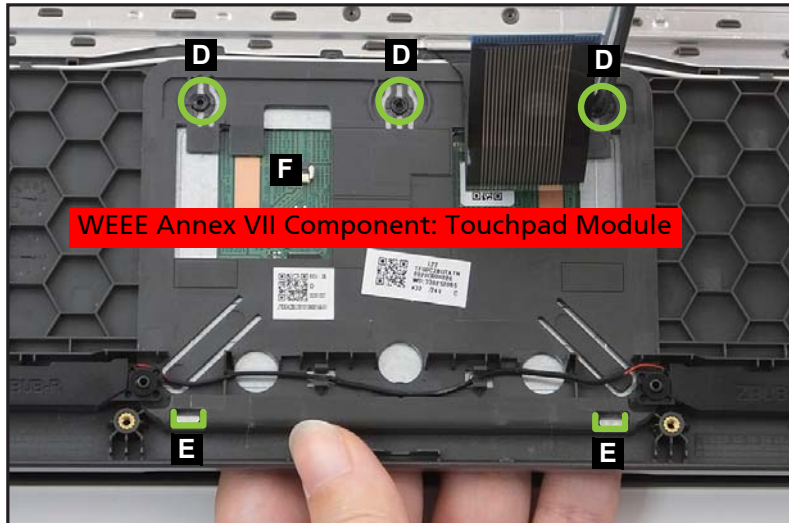

Figure 1-13. Touchpad Module Removal
5. Using the screwdriver, push the guide pins (D) firmly to release them from the top assembly (Figure 1-13).
6. With one hand is placed underneath the touchpad module, push the touchpad module slightly to disengage it from the bottom latches (E), and then remove the touchpad module (F) from the top assembly (Figure 1-13).